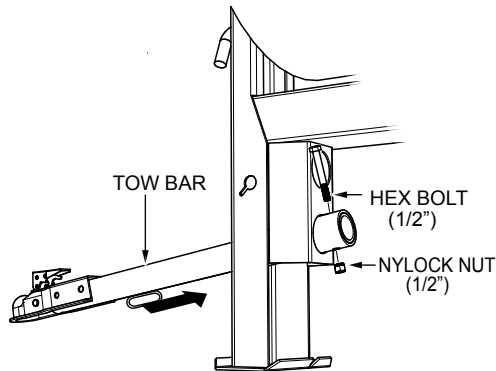

Figure 6. Inserting Tow Bar
1. Insert the tow bar through the round opening at the bottom of the mixer stand (Figure 6).
2. Align the hole on the tow bar with the hole on the mixer frame (Figure 6), and insert 1/2-inch bolt through tow bar and frame. Secure tow bar to frame with 1/2-inch nylock nut. Tighten to 40 ft.-lbs.